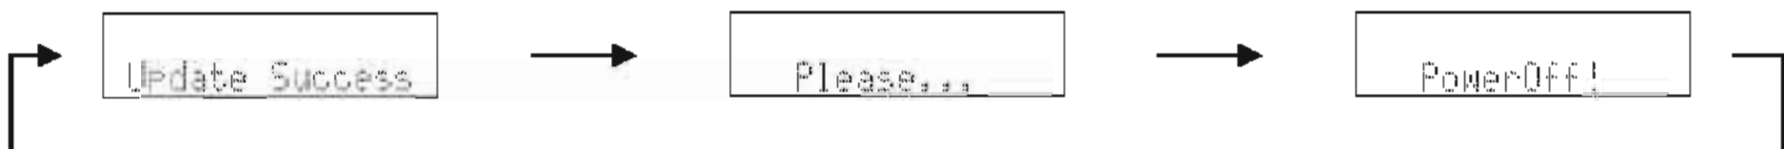

Fig. 3
5. When writing of the firmware is completed, "Update Success", "Please..." and "PowerOff!" are displayed repeatedly. (Fig. 3)
5. ファームウェアの書き込み完了後、“Update Success”、“Please...”、“PowerOff!”が繰り返し表示されます。(Fig. 3)